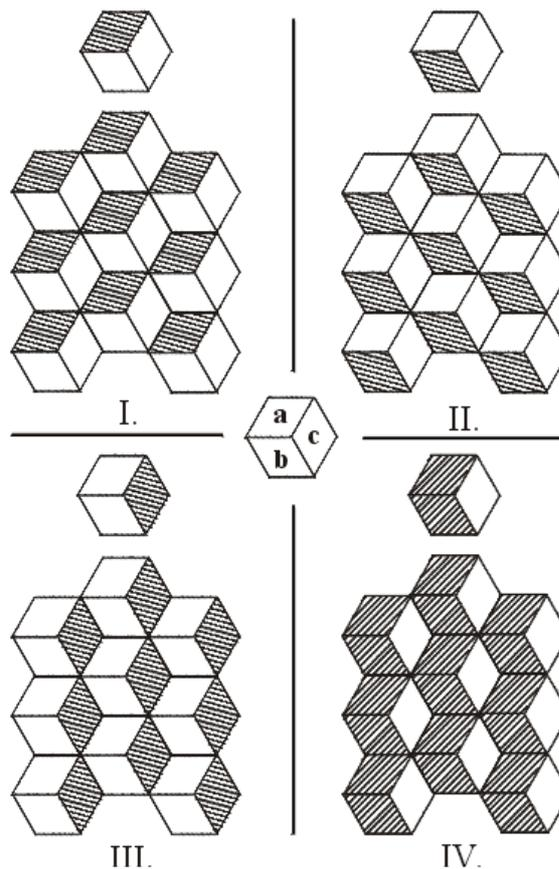
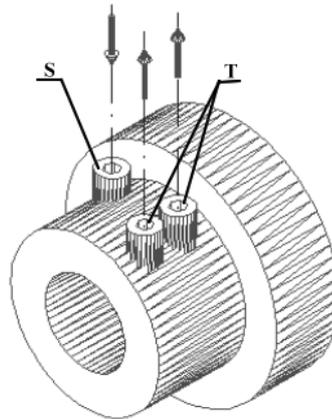

Fig. 4
Fig. 5
High quality comb foundation should have cells with walls of identical thickness. To check it a piece of comb foundation should be looked against daylight. The comb foundation should be held with its beginning pointing upward and the upper surface towards an observer. Thicker walls are darker, thinner ones are lighter. In this way one could observe one of four main errors of adjustment. They are depicted in Fig. 4.
The received comb foundation resembles point I or II in Fig. 4. Top and bottom wall of a cell (a and b) have different brightness (thickness). To regulate those errors screws marked 1 in Fig. 1 should be used. In case of variant I, screws marked T in Fig. 5 should be unscrewed first, and then screw S should be tightened as shown in Fig. 5.
If the received comb foundation resembles variant II in Fig. 4, turn loose (1/4 of a revolution) two upper screws on the right side of the rollers frame (6) and turn tight (slightly) two screws on the opposite side. Thus moving the bearing shell with the upper roller towards the person feeding the roller with wax. If the comb foundation got worse or in case of variant I, try the opposite direction.
If the received comb foundation resembles variant III in Fig. 4, the upper roller should be moved right. Turn tight (1/4 of a revolution) two screws 4 on the right side of the rollers frame and unscrew (1/4 of a revolution) two screws 3 on the opposite side.
If the received comb foundation resembles variant IV in Fig. 4, the upper roller should be moved left. Turn tight (1/4 of a revolution) two screws 3 on the left side of the rollers frame and unscrew (1/4 of a revolution) two screws 4 on the opposite side.